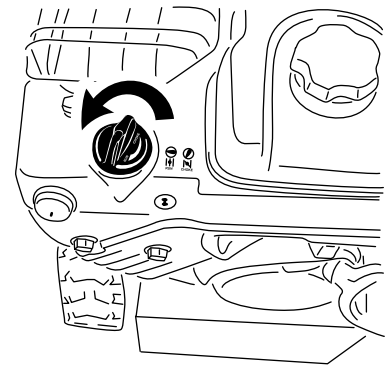

Figure 31
5. Rotate the choke to the Choke position (Figure 31).